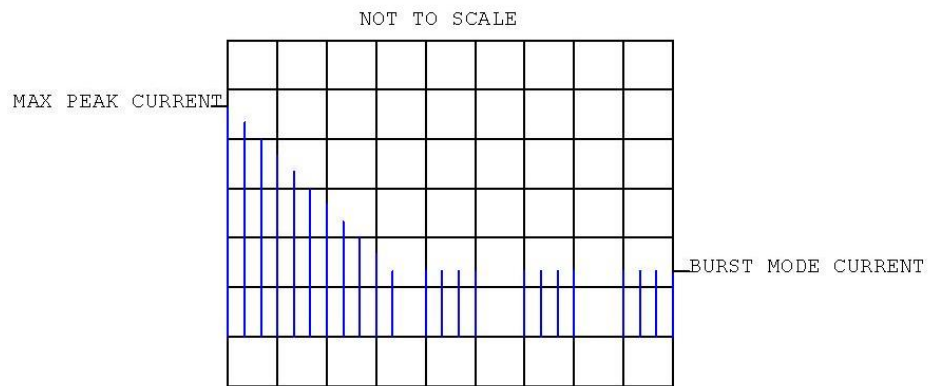

FIGURE 12
13) Some other ICs like NCP120x series have built in adjustment technique for peak level of current at current sense resistor to reduce or forbid the acoustic noise completely. They lowers the peak level of current at low power demand (Figure 12). This way peak level of flux is lowered which reduces magnetostriction effect so that no acoustic noise can be heard from transformer core. The advantage is that we can operate the power supply in burst mode at light loading without danger of acoustic noise. Burst mode operation can also be implemented with UC384X chips using few